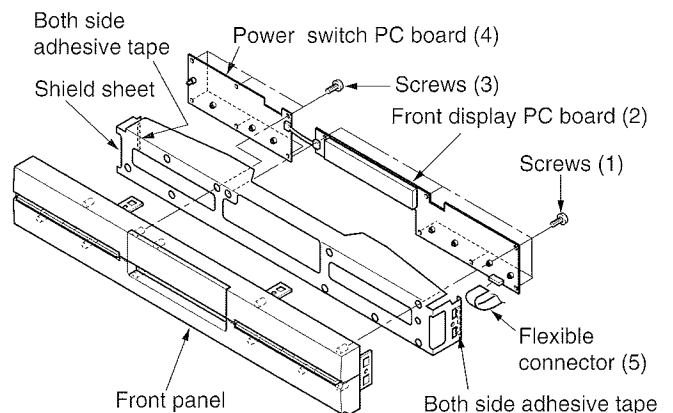

Fig. 2-11
1. Remove the front panel (Refer to item 1-1-3).
2. Remove six screws (1), and remove the front display PC board (2). (Refer to Fig. 2-11.)
3. Remove six screws (3), and remove the power switch PC board (4).
4. Remove the flexible connector (5) of the front display PC board (2).
5. Remove the shield sheet (6).